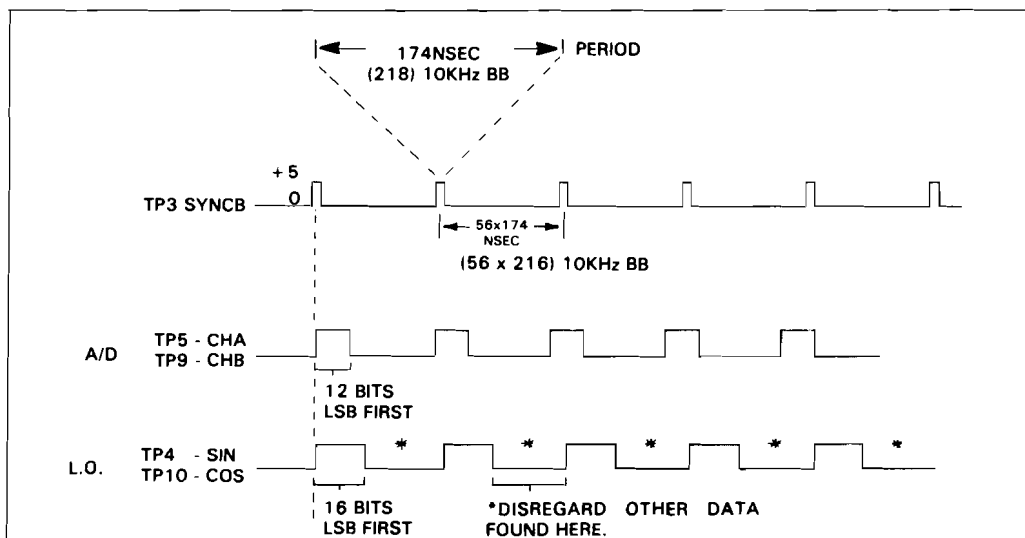

Figure 8-3-2. Output From Data Input Buffer.
- b. Use the untriggered channel to confirm that signals are present on the signals lines as indicated in Figure 8-3-2.